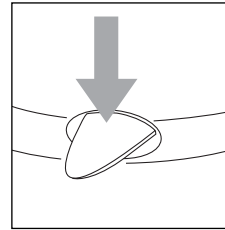

Fig.3
- Press the ON/OFF switch down (fig.3) to switch the kettle on.